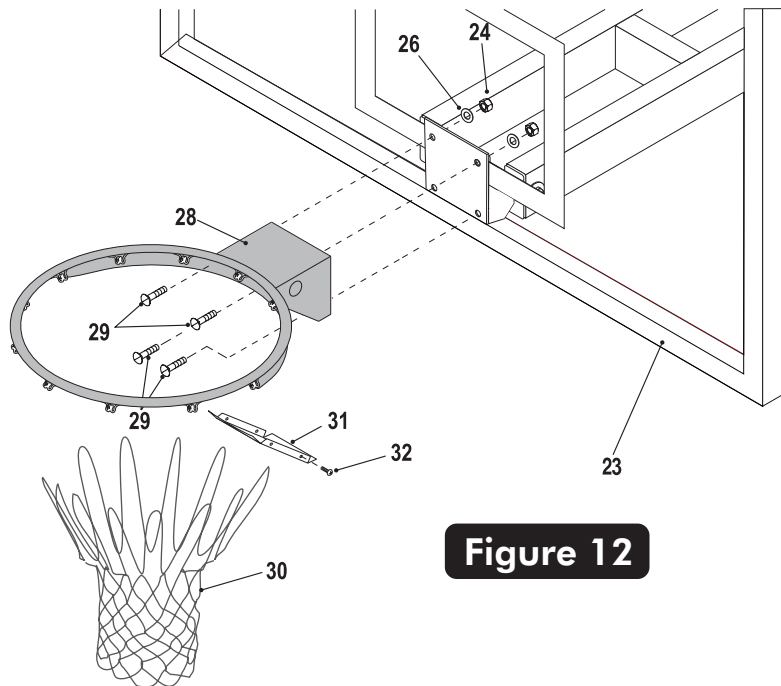

Figure 12
18. Mount Goal Assembly (#28) to Backboard as shown in **Figure 12**, using four bolts (#29), washer (#26) and four nuts (#24). Tighten Fasteners but leave loose enough to level rim.